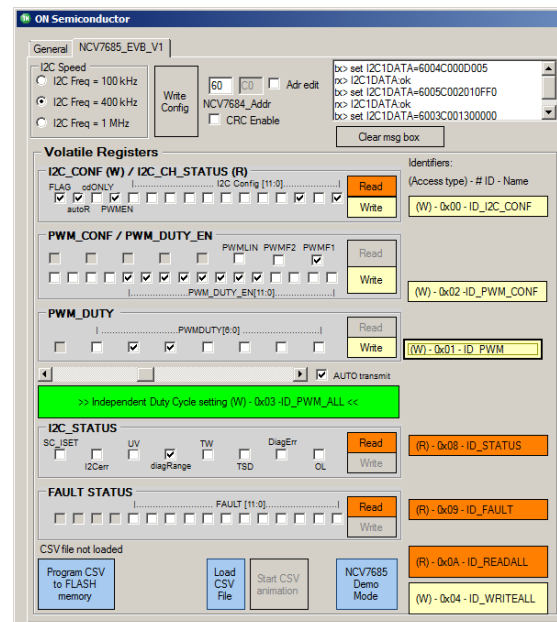
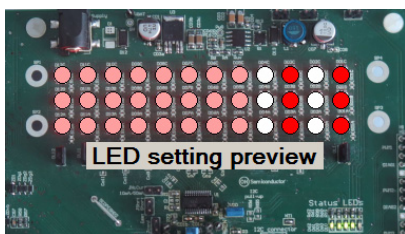

Figure 11. Test Register Setup
Figure 12. Expected Output Channel Intensity
15. To check the functionality, set the registers based on the Figure 11 screenshot. Then click on the “write” buttons: ID_I2C_CONF, ID_PWM_CONF and ID_PWM. The expected output LED intensity is shown in Figure 12.